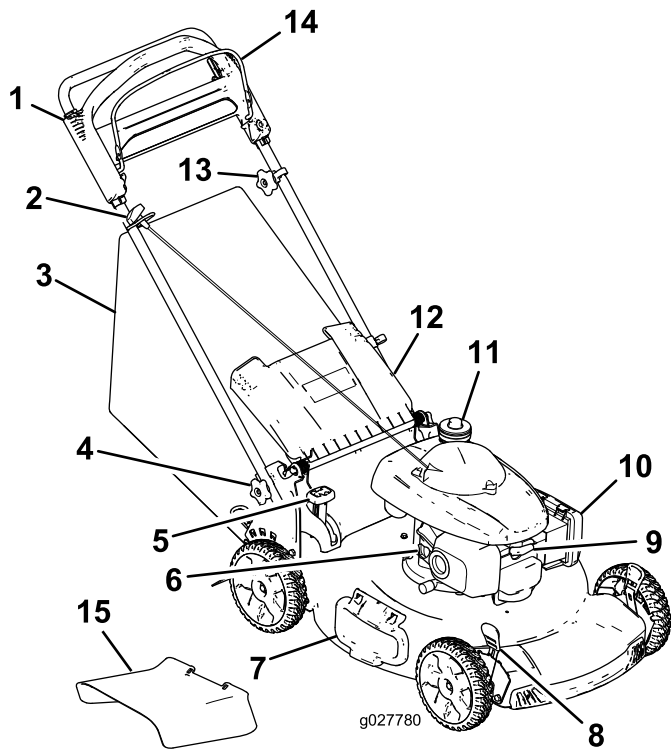

Figure 9
1. Raise and hold up the rear deflector (Figure 9).